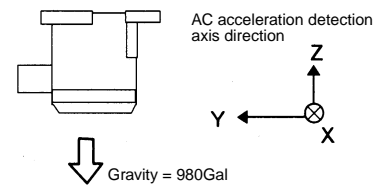

Figure 3B Z-axis FSG measurement ( $\alpha Z_{+1960}$ )
(2) Put this unit in the posture shown in Figure 3B.